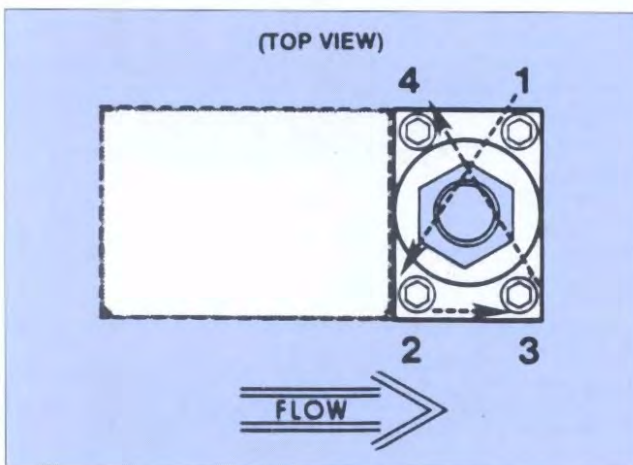

Figure 4-1 Torque Sequence for the Pilot Valve Retainer Plate
2. Place the restrictor assembly (31) into the inlet side of the flow controller body.
3. Press the lubricated sensor O-rings (18) into the flow controller body (1). Install the sensor assembly and secure with two screws (23) and tighten.
4. Install the orifice (30) and its O-ring, using a 3/8 nut driver. Insure that the orifice is fully seated but do not overtighten.
6. Place the spacers and springs on the valve seat (12) in the same order as noted in Step 8 of the disassembly. Screw the valve seat (12) in the same order as noted in step 8 of the disassembly. Screw the valve seat (12) into the plunger (4). Tighten the assembly until there is no looseness but do not overtighten.
8. Install the pilot valve stem assembly (3), secure with the valve retaining plate (7) and four hex socket screws (22). When installing the screws they should first make light contact with the plate which should be checked to insure that it makes full contact around the stem assembly. Torque the screws securing the valve retaining plate in a diagonal pattern (refer to figure 4-1) to 1.9 Nm.
9. Install the coil assembly (4) over the valve stem assembly (3) and secure with nut (6).
10. Install the PC board (8) and secure with the bracket (10) and two screws. Plug the connector from the sensor assembly onto the PC board. The flow arrow on the connector should be pointing toward the valve assembly.
11. Install the electronics cover (2) on the controller, secure with three screws (21) and reinstall the upper jack post of the D-connector. Plug the sensor from the valve coil into the PC board through the hole in the electronics cover.